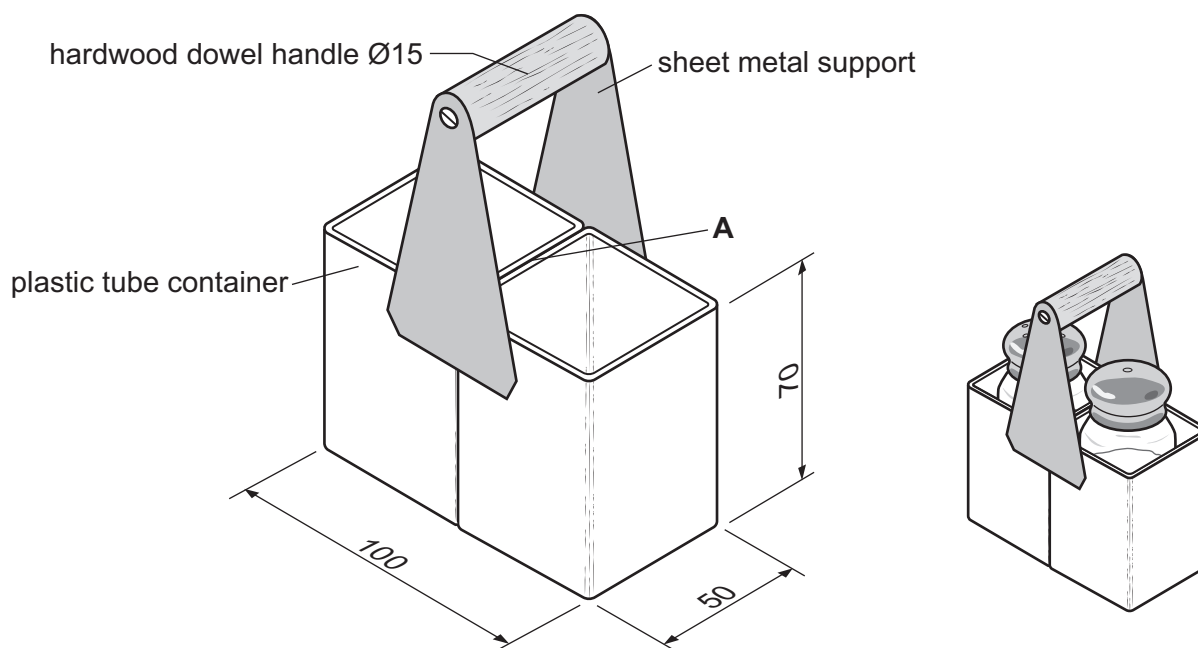

Fig. 12.1
- 12 Fig. 12.1 shows a design for a holder to contain salt and pepper shakers. A batch of 12 holders will be produced for use in a local café.
- (b) The containers will be connected at position **A** shown in Fig. 12.1.